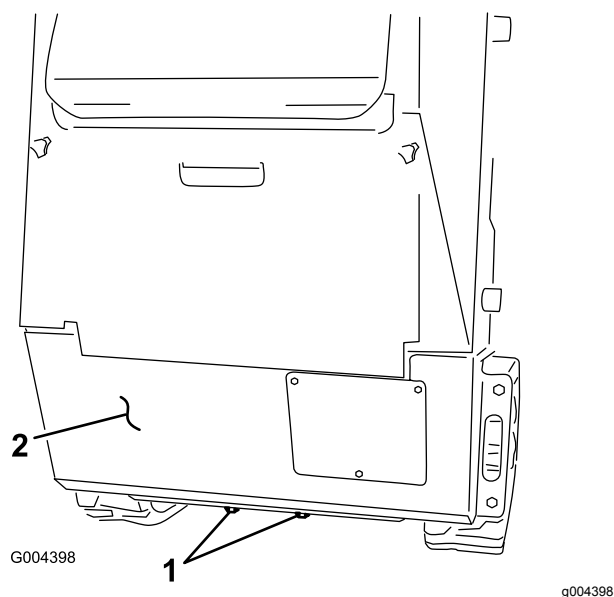

Figure 2
1. Check and tighten the bottom 2 bolts securing the lower rear panel to the frame (Figure 2).